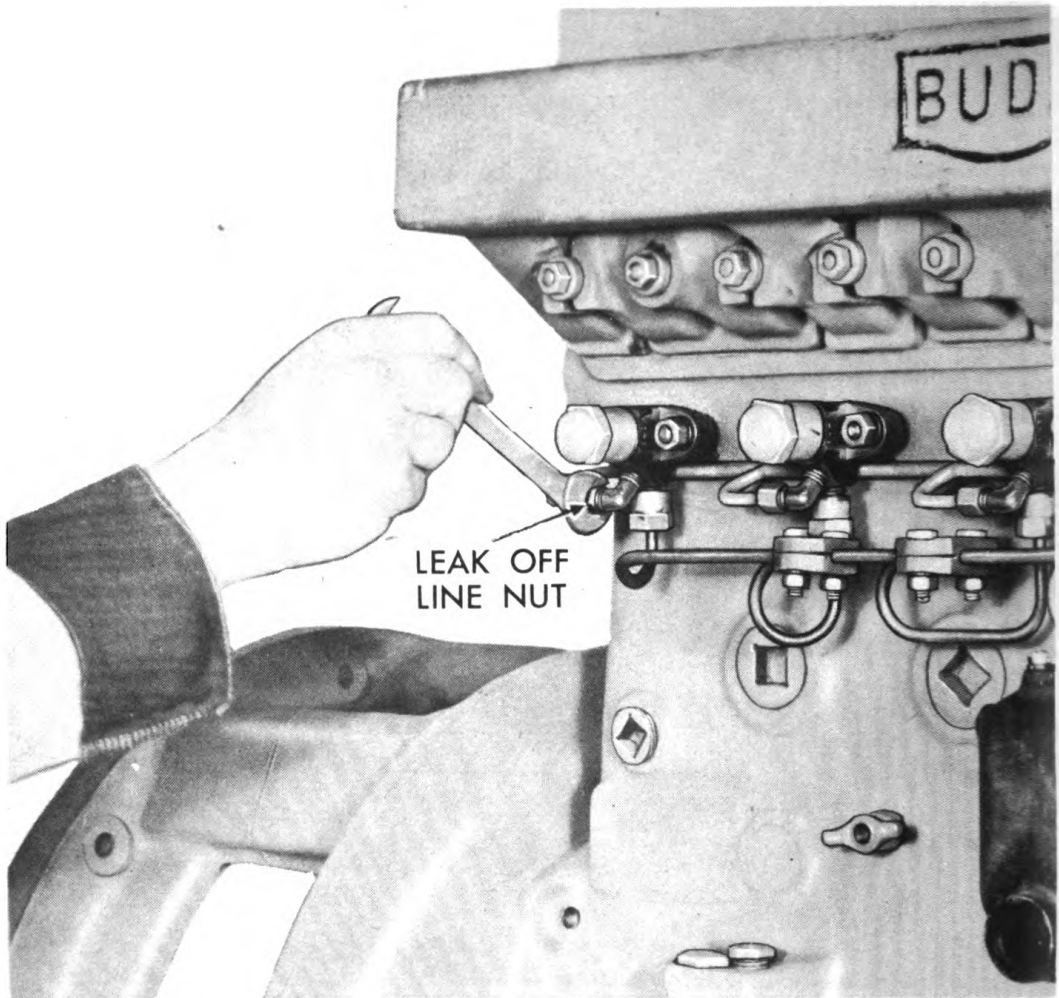

Figure 106. Removing Injector Leak-off Line at Injector.
4. Remove the injector leak-off lines, both at the injector and at the fuel injection pump, as shown in Figures 106 and 107.